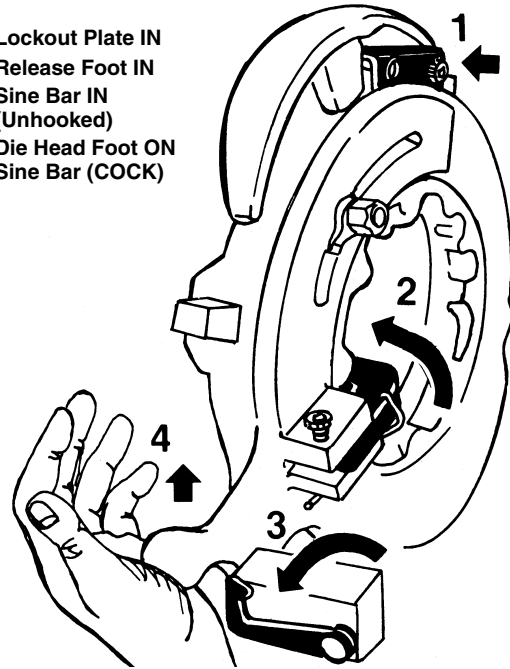

Figure 10 – Setting No. 714 or 914 Self-Opening Die Head for NPT or BSPT Threads
3. Position lockout plate IN. (Figures 10 & 13)
4. Release foot IN. (Figure 10)
5. Sine Bar should be IN (UNLATCHED). (Figures 10 & 13)
6. With die head in DOWN position, push UP on cam locking plate handle (Figure 10, Step 4) until release foot latches in die head body.
4. With die head in DOWN position, pick up cam locking plate handle until release handle (Figure 10, Step 4) engages notch.